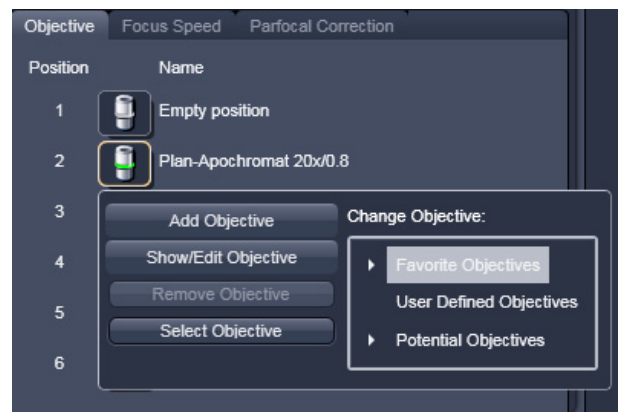

Fig. 162 Change objective window
- An expansion (**Change Objective**) window appears. All available objectives are listed in the **Potential Objectives**, **User defined Objectives** or **Favorite Objectives** directories of the expanded window (see Fig. 162).